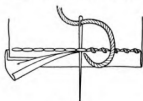

FIGURE 18
*Catch Hemming Stitch* (Figure 18). — This stitch is ideal for use in sewing bias binding (see Section 26) in place after it has been stitched to the garment. Fold the raw edge